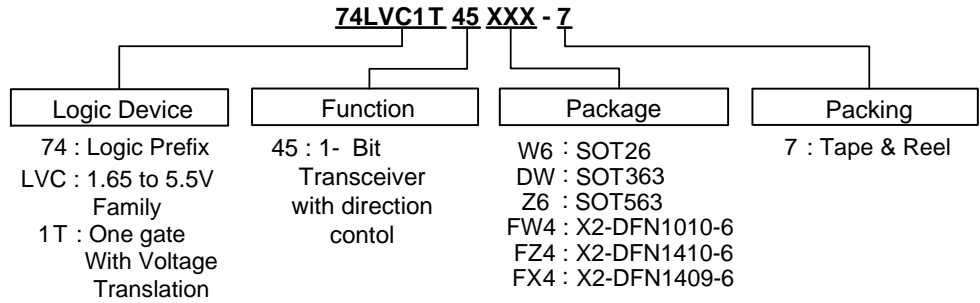

**Figure 1. Load Circuit and Voltage Waveforms**
**Switching Characteristics** ( $V_{CC} (A) = 1.8V \pm 0.15V$ ,  $T_A = -40^\circ C$  to  $+85^\circ C$ , see Figure 1)
**Switching Characteristics** (cont.) ( $V_{CC} (A) = 2.5V \pm 0.2V$ ,  $T_A = -40^\circ C$  to  $+85^\circ C$ , see Figure 1)
**Switching Characteristics** (cont.) ( $V_{CC}(A) = 3.3V \pm 0.3V$ ,  $T_A = -40^\circ C$  to  $+85^\circ C$ , see Figure 1)
**Switching Characteristics** (cont.) ( $V_{CC}(A) = 5V \pm 0.5V$ ,  $T_A = -40^\circ C$  to  $+85^\circ C$ , see Figure 1)